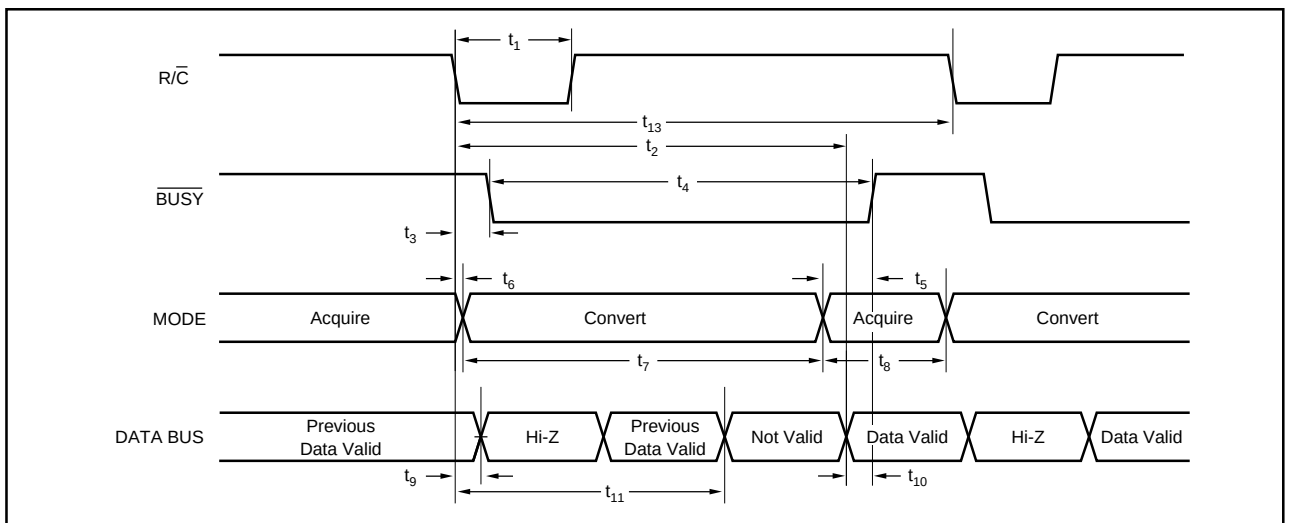

FIGURE 3. Conversion Timing with Outputs Enabled after Conversion ($\overline{CS}$ Tied LOW.)
Table II for a summary of $\overline{\text{CS}}$, $\text{R}\overline{\text{C}}$, and $\overline{\text{BUSY}}$ states and Figures 3 through 5 for timing diagrams.
NOTE: (1) See Figures 3 and 4 for constraints on data valid from conversion "n-1".
After conversion 'n' is completed and the output registers have been updated, $\overline{BUSY}$ (pin 26) will go HIGH. Valid data from conversion 'n' will be available on D15-D0 (pin 6-13 and 15-22). $\overline{BUSY}$ going HIGH can be used to latch the data. Refer to Table IV and Figures 3 and 5 for timing specifications.
After conversion 'n' has been initiated, valid data from conversion 'n-1' can be read and will be valid up to $7\mu s$ after the start of conversion 'n'. Do not attempt to read data from $7\mu s$ after the start of conversion 'n' until $\overline{BUSY}$ (pin 26) goes HIGH; this may result in reading invalid data. Refer to Table IV and Figures 3 and 5 for timing specifications.
The number of control lines can be reduced by tying $\overline{CS}$ LOW while using $R/\overline{C}$ to initiate conversions and activate the output mode of the converter. See Figure 3.